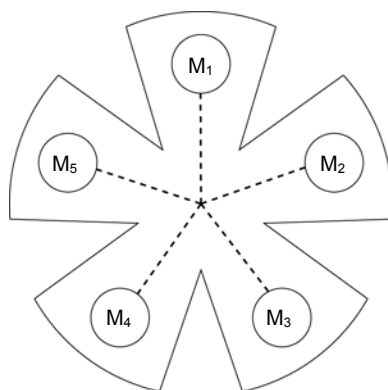

Figure 1: Filter paper diagram
- Draw five small circles with connecting lines on a piece of circular filter paper (11-cm diameter), as shown in Figure 1. Label the circles  $M_1$ ,  $M_2$ ,  $M_3$ ,  $M_4$ , and  $M_5$ .